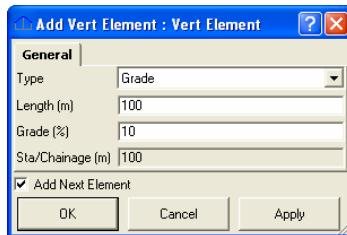

Figure 9-48. Add Vert.Element: Grade dialog box. General Tab
- In the *General* tab of the *Add Vert. Element: Grade* dialog box, enter the following parameters for the grade (Figure 9-48 on page 9-31):